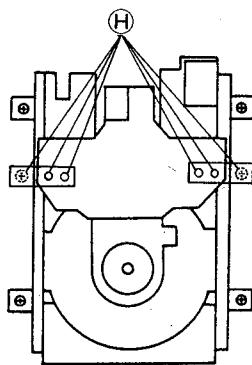

Figure 6
- (1-2) Remove the six (H) screws fastening the clamper, the spring, and finally the clamper. (Figure 6)